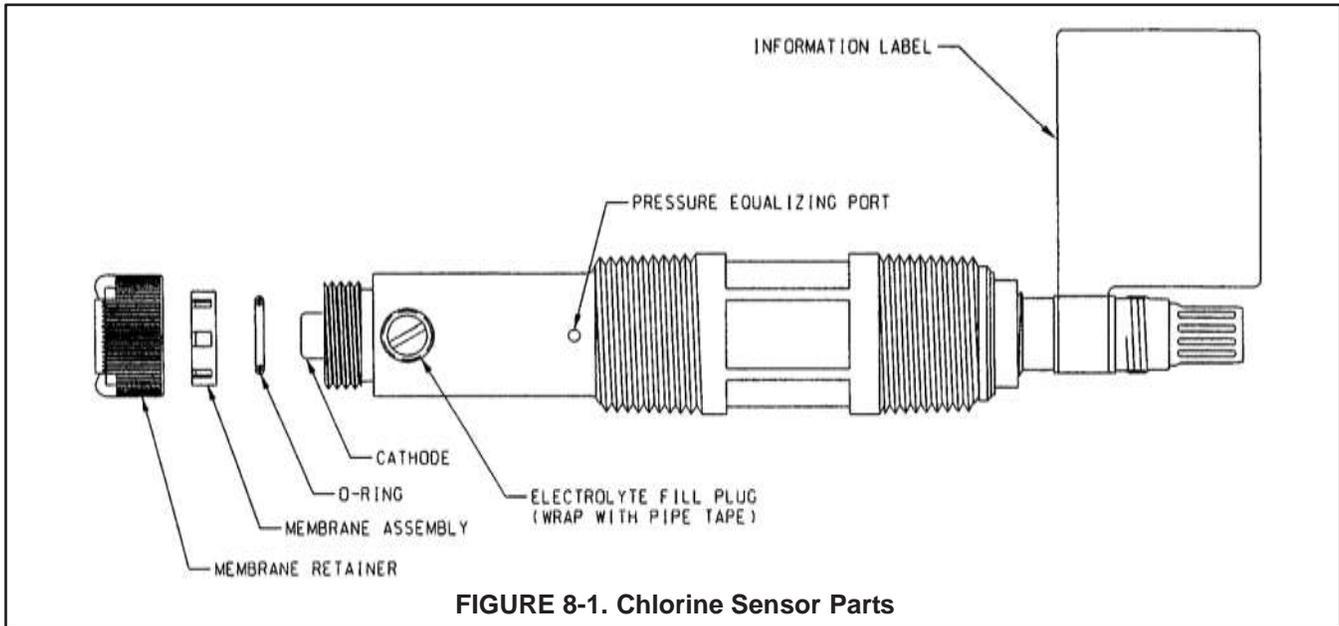

FIGURE 8-1. Chlorine Sensor Parts
1. Unscrew the membrane retainer and remove the membrane assembly and O-ring. See Figure 8-1.
10. Insert a small **blunt** probe, like a toothpick with the end cut off, through the pressure equalizing port. See Figure 8-1.